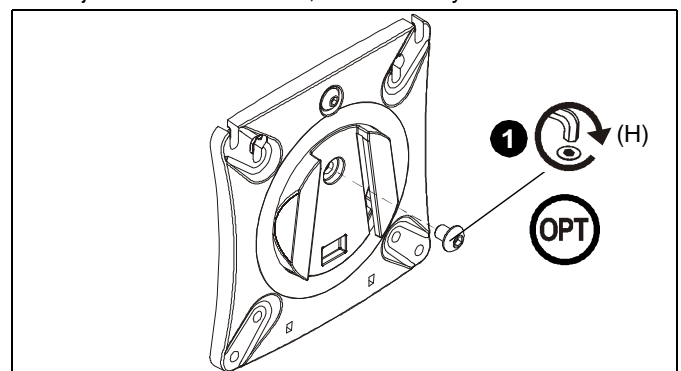

Figure 8
1. **(Optional)** Rotational adjustment may be locked by fastening face plate in place using one 10-24 x 1/4" button head cap screw (H) into back of faceplate. (See Figure 8)
2. Use the 3/16" hex key (N) on the button head cap screw to adjust rotational tension, as necessary.